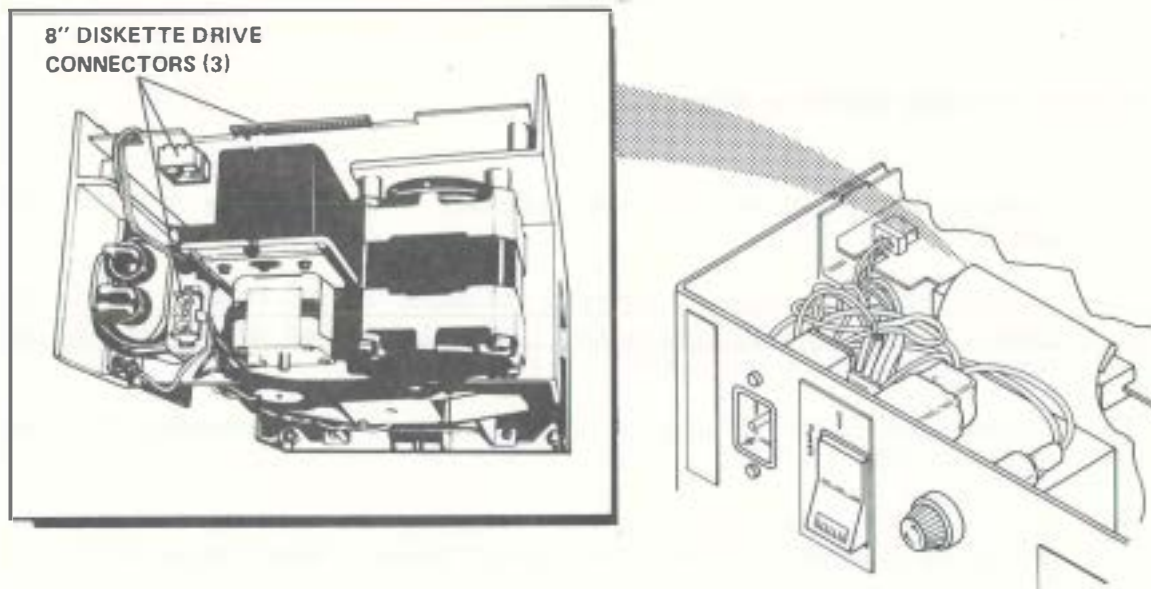

Figure 5-27. 8" Diskette Drive Connections
8. Slide the diskette drive out a few inches and disconnect the three connectors on the rear of the diskette drive. See Figure 5-27.
2. Slide the diskette drive into the housing until the three rear connectors can be replaced. Replace the connectors. See Figure 5-27.